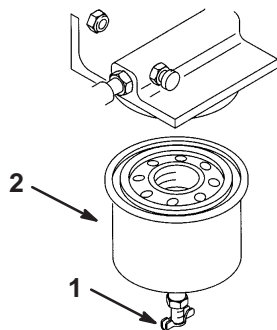

Figure 29
4. Open the drain valve (Fig. 29) and drain the fuel from the fuel filter into a suitable container and dispose of it properly.
5. Remove the fuel filter with a filter wrench (Fig. 29).